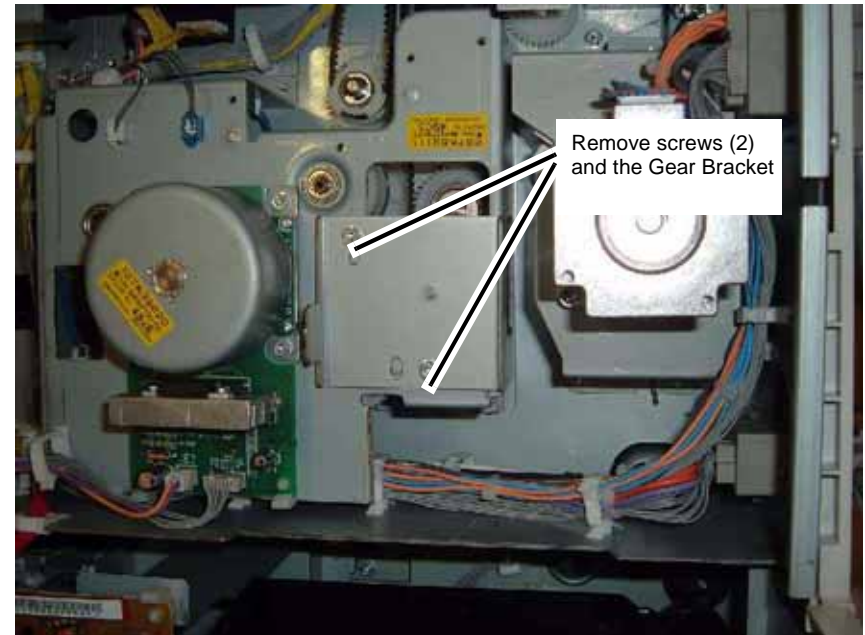

Figure 2 Removing the Gear Bracket
4. Remove the Gear Bracket (Figure 2).